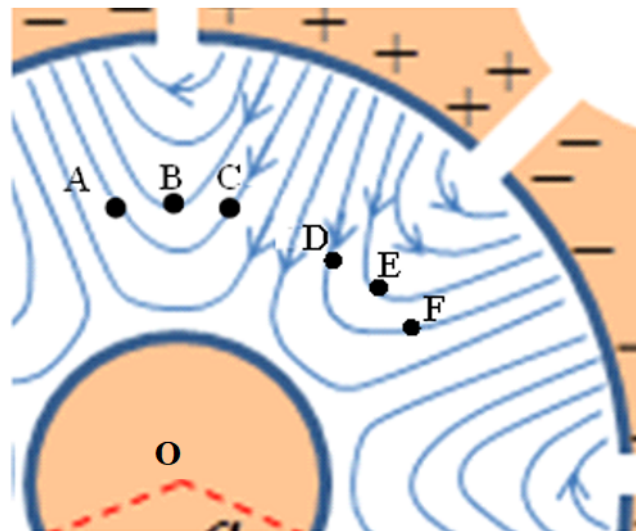

Figure 3
Figure 3 depicts the alternating electric field lines between the anode and the cathode (the static field is not plotted) at a given moment in time. The positions of six electrons at that moment are denoted by A, B, C, D, E and F. All electrons are at the same distance from the cathode.
- A.5** Consider the situation shown in Figure 3. For each of the six electron pairs AB, AC, BC, DE, DF, EF, indicate in the Answer Sheet whether their drift will cause the angle between their position vectors (measured from the cathode's center O) to increase or decrease at that moment. 1.2pt